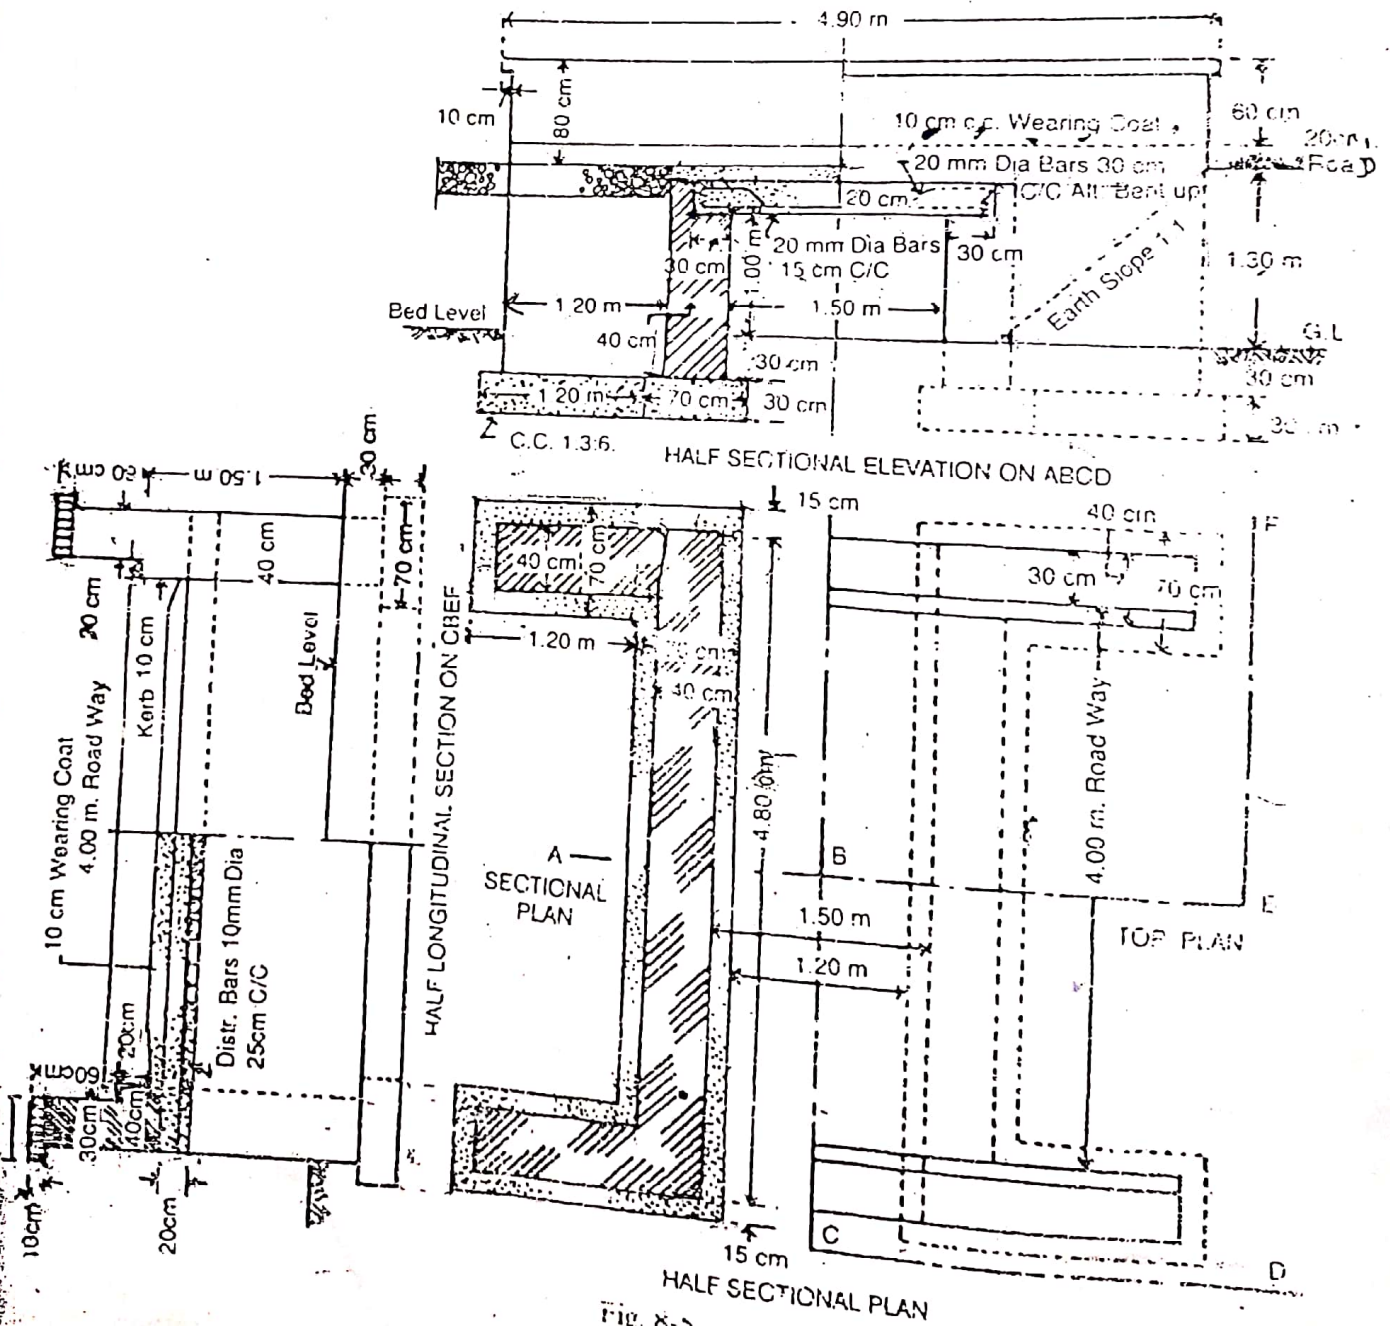

Fig. 8-5
**Example 1** Prepare a detailed estimate of a slab culvert of 1.50 metre span and 4.00 m wide roadway from the given drawing (Fig. 8-5). The general specifications are as follows: